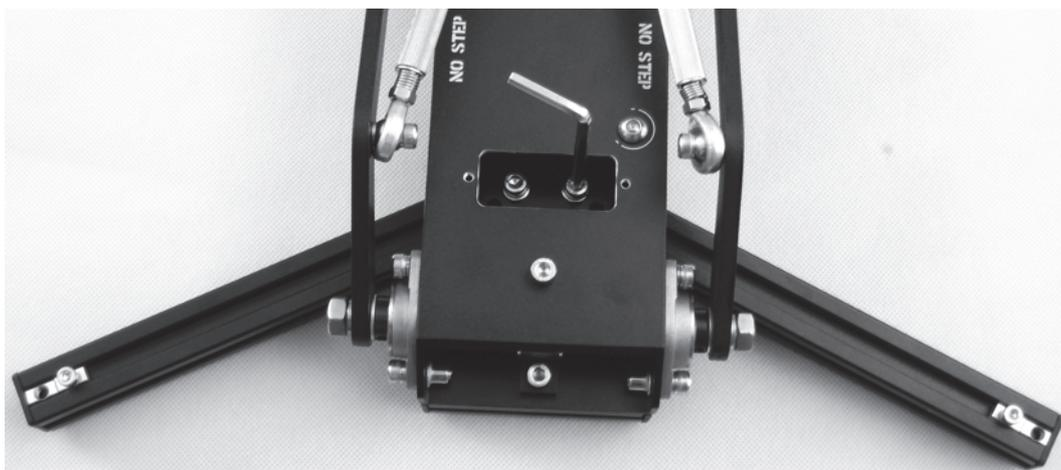

Fig. 2.10.
- 4.7. Tighten the screws. An example of back legs installation is shown on fig. 2.10.